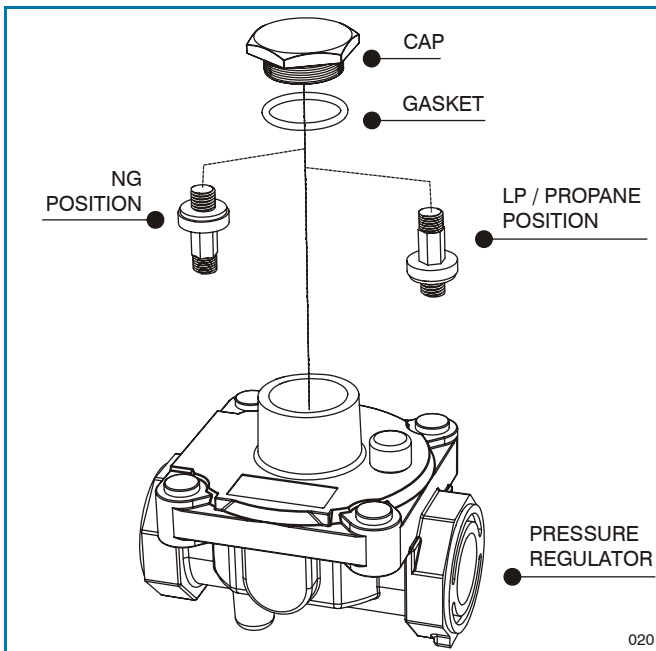

Figure 19. Pressure regulator conversion
Adjust the pressure regulator, by following the instructions (see figure 19):
2. **INVERT CAP IN APPLIANCE PRESSURE REGULATOR** following the steps described on the previous page carefully look at the spring retainer to locate the NG position (see figure 19).